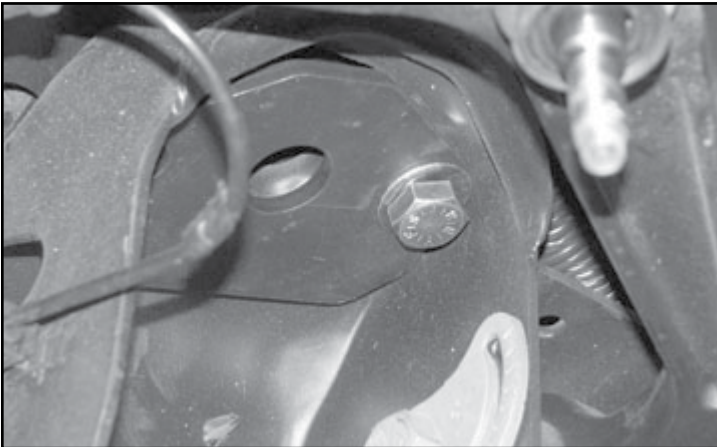

FIGURE 5
11. If installing Dirt Logic shocks, use a barrel sander to open up the factory hole to clear the new top washer. Next, install the upper shock mount (FT20484) into the factory upper shock tower using the using two 9/16"-12 x 1-1/4", washers and lock nuts. Torque to 184 ft-lbs. If installing FTS6341 (stealth) without blue shaft seal install FT20740. If your FTS6341 has a blue shaft seal you do not have to install the FT20740. **SEE FIGURE 5**